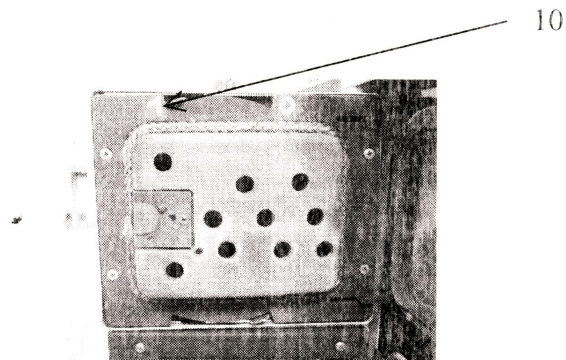

Figure 4
With secondary air supply (Figure 4, from above, over the fuel, flow of combustion air) to the fuel which is used, combustion with minimum harmless substances is achieved.
Secondary air control is shown in Figure 4, Item 10. Secondary air is regulated with a lever located on inner side of firebox door. On inner side of firebox door, designation 0-1 is visible. If the lever is moved in the direction of “0”, volume of secondary air is decreased, while in the direction of “1” it is increased.
- * Put secondary air control (Figure 4, Item 10) into position 1.